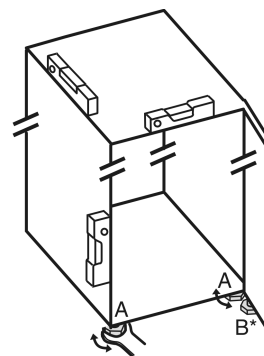

Fig. 6
- ▶ Unscrew the adjustable feet Fig. 6 (A) using the enclosed open-end spanner and a spirit level until the appliance is firmly aligned and level.
- ▶ Unscrew the adjustable foot Fig. 6 (B) on the swap bearing block with the enclosed open-end spanner until it rests on the floor.
- ▶ Turn the adjustable foot Fig. 6 (B) 90° further.